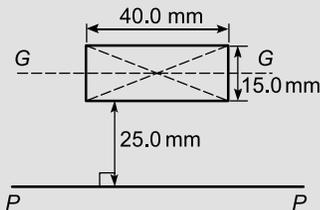

Figure 8.12
**Problem 7.** Find the second moment of area and the radius of gyration about axis  $PP$  for the rectangle shown in Figure 8.12.